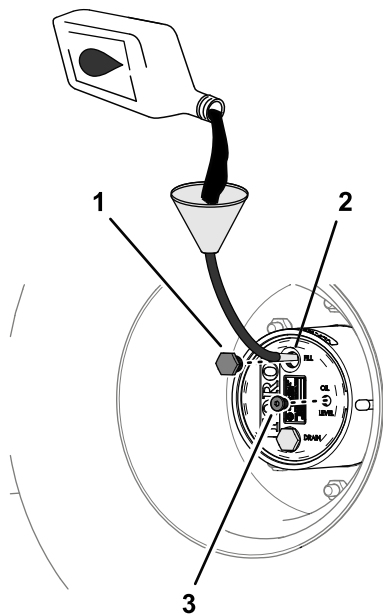

Figure 98
4. If the lubricant level is low, remove the fill plug and add the specified lubricant until it begins to flow out of the check-plug hole (Figure 98); refer to Planetary-Gear-Drive Lubricant Specification (page 69).
6. Install the fill plug and the check plug (Figure 98).
1. Through the fill-plug hole, slowly add the specified gear lubricant; refer to Figure 98 in Checking the Planetary-Gear-Drive Lubricant \(page 69\).
3. Install the fill plug and check plug; refer to Figure 98 in Checking the Planetary-Gear-Drive Lubricant \(page 69\).